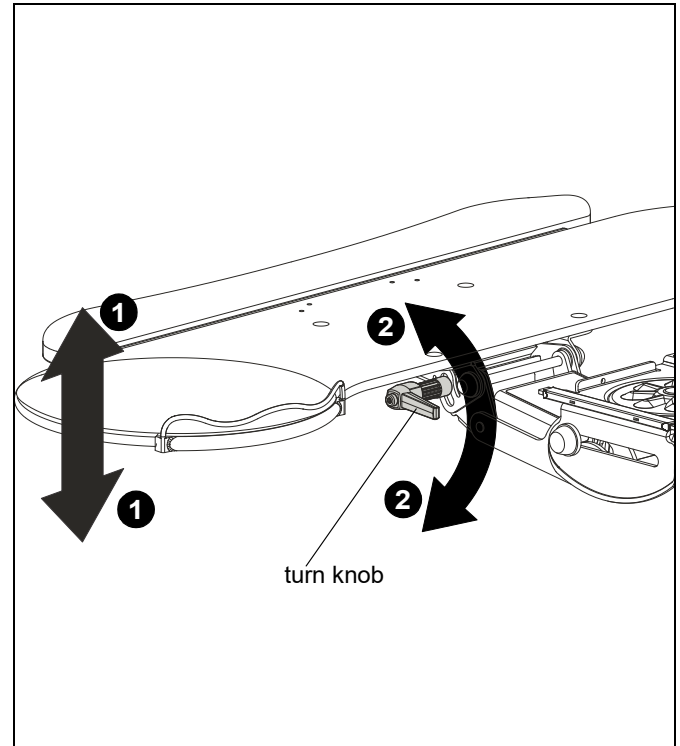

Figure 7
1. Lift mechanism arm up or down until desired height is reached. (See Figure 7)
2. Turn tilt knob to adjust keyboard tray tilt. (See Figure 7)